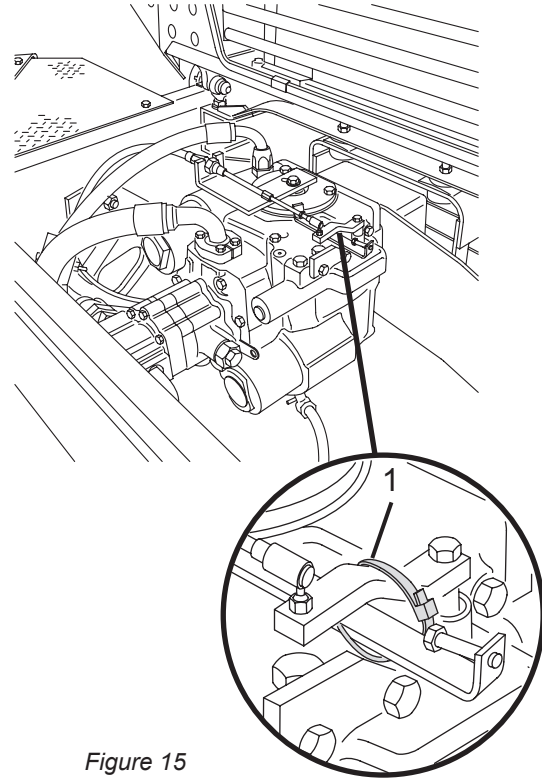

Figure 15
1. Remove the cable tie (Figure 15, Item 1) securing the hydraulic pump linkage in the TRANSPORT mode. The TRANSPORT mode constantly rotates the drum in the CHARGE direction at a speed of 1 to 1-1/2 RPM. This prevents the drum rollers from becoming damaged during transport.